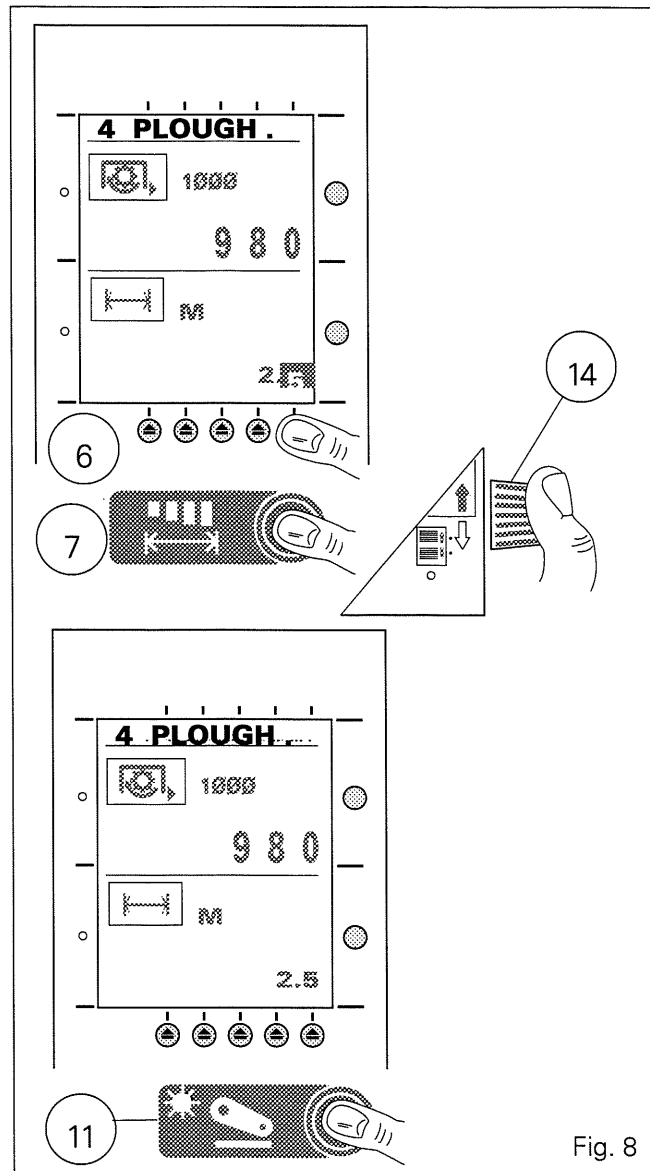

Fig. 8
Select the working width of the implement used by pressing key 7 (fig. 8); modify the figures by pressing the corresponding keys 6, then turn knob 14 to display new values. Press key 7 again to return to the previous screen.